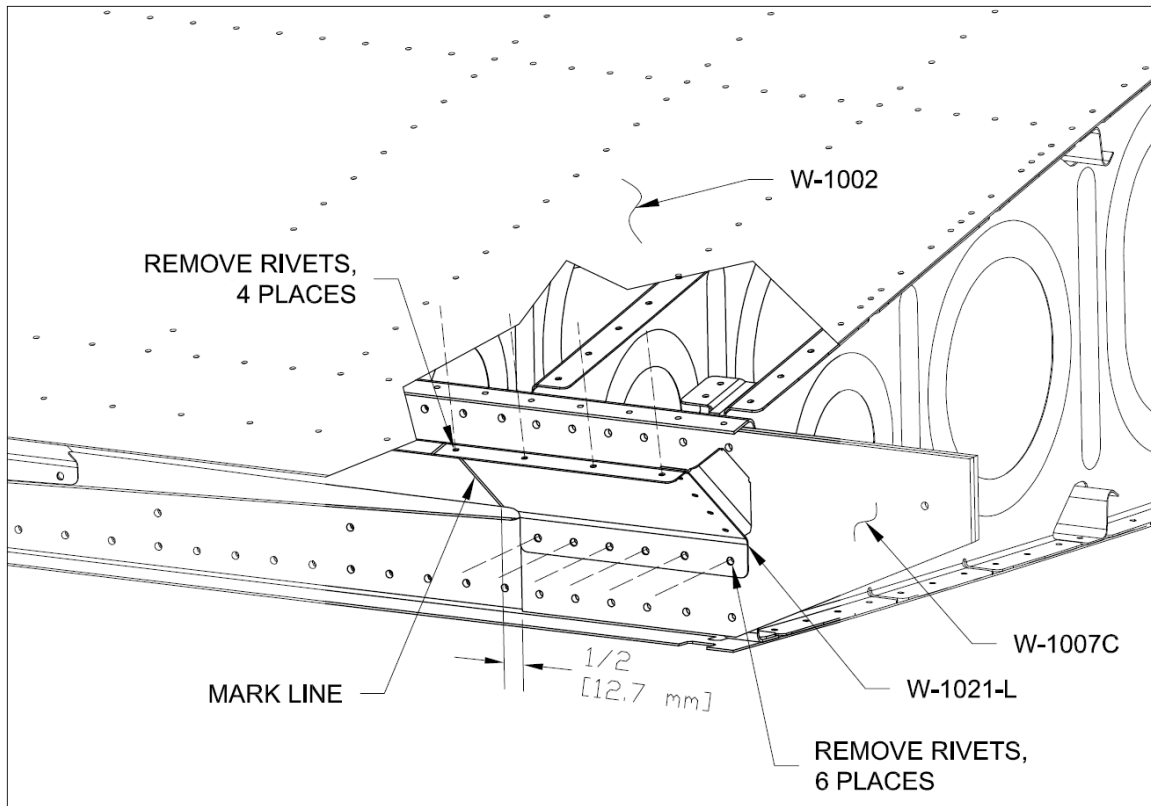

FIGURE 2: REMOVING FLAP GAP FAIRING RIVETS
Step 10: Remove the six inboard-most rivets fastening the W-1021-L Flap Gap Fairing to the W-1007C and underlying structure as shown in Figure 2.
Step 11: Remove the four inboard-most rivets fastening the W-1021-L to the W-1002 as shown in Figure 2.
Step 12: Measure and mark a line on the W-1021-L, 1/2 in. [12.7 mm] offset from, and parallel to, the outboard edge of the W-1007C. See Figure 2.